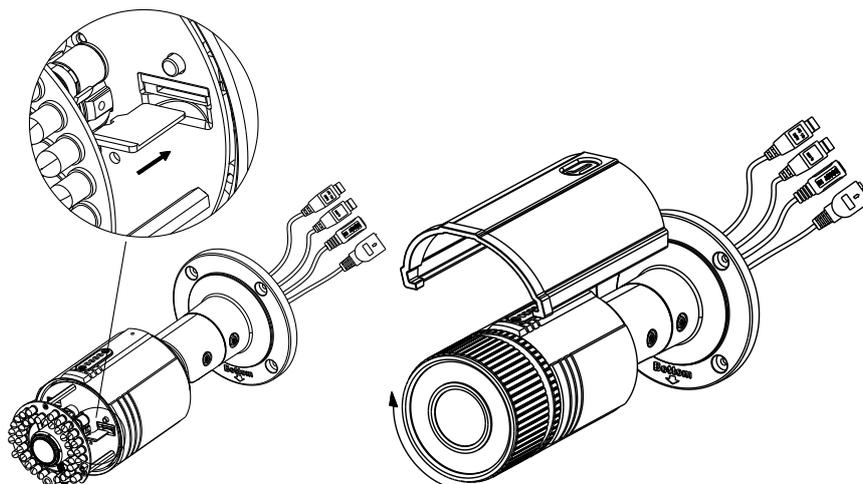

Figure 7-6 Install the SD Card
- 5). Rotate the front cover clockwise to install the sun shield according to the arrow direction as shown in Figure 7-6(right).